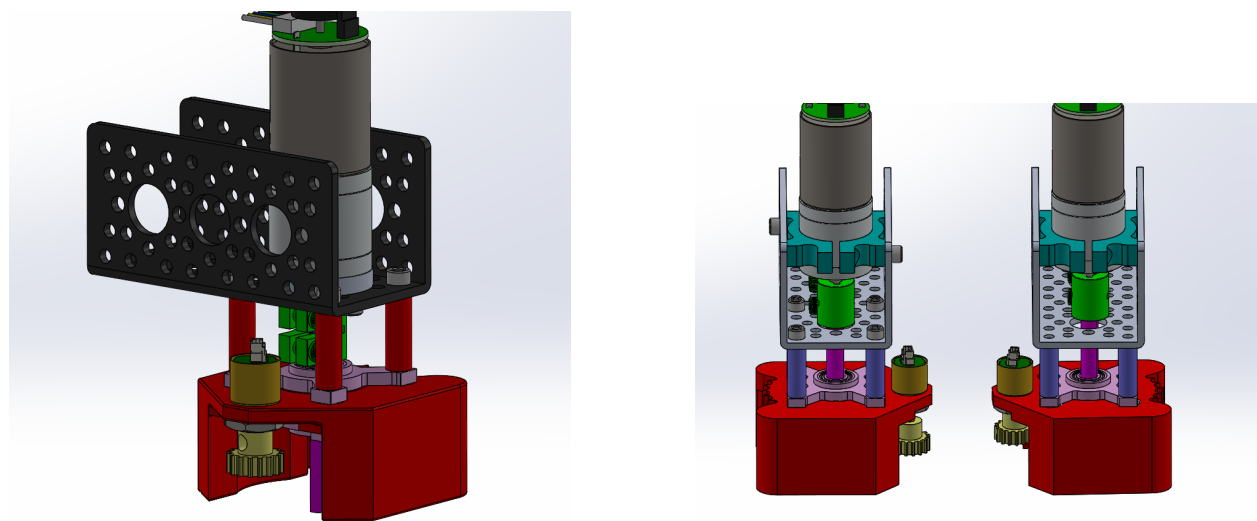

Figure 5: Corner Steering Step 4
4. **Encoder:** Attach the encoder **E7** to the encoder mount **S31** and then attach the 12-tooth gear **S27** to the encoder shaft. We will worry about its exact position later on. You should now have one finished corner steering assembly. Repeat the steps above to build the other 3 corner steering assemblies. **Note that unlike other assemblies, this assembly isn't identical for all four of them! You will need to build two versions where the encoder mount is mirrored about the motor shaft (see Figure 5 for an example).**